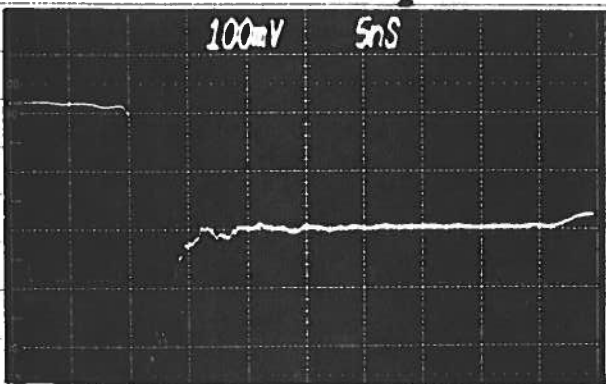
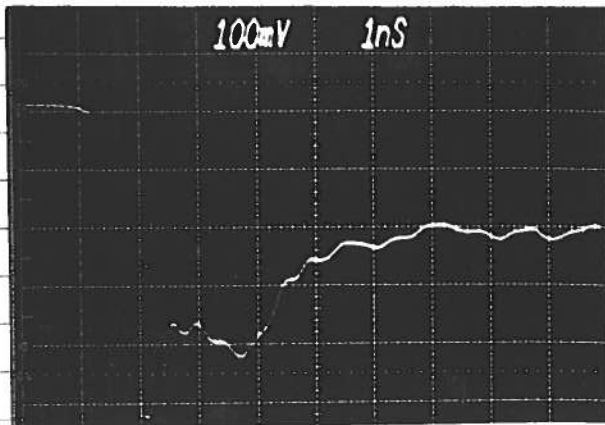

Fig 3A MS ③ BUT
Fig 3B
- 10) Set scope time base on 5 or 1 ns/div to obtain display shown in Fig. 3A and/or Fig. 3B (adjust DELAY to center on CRT). Note that the leading spike (and ripple) on the I_R waveform are primarily due to the extremely short rise time of OUT 1 and the parasitic reaction of the test jig. These effects can be reduced by using a longer rise time (note that the rise time of the AVR-EB2-C unit may be increased by about 20% by removing the +5.8 supply to the EB2-TRA module).
- 15) If further assistance or information is required, call (613) 226-5772.